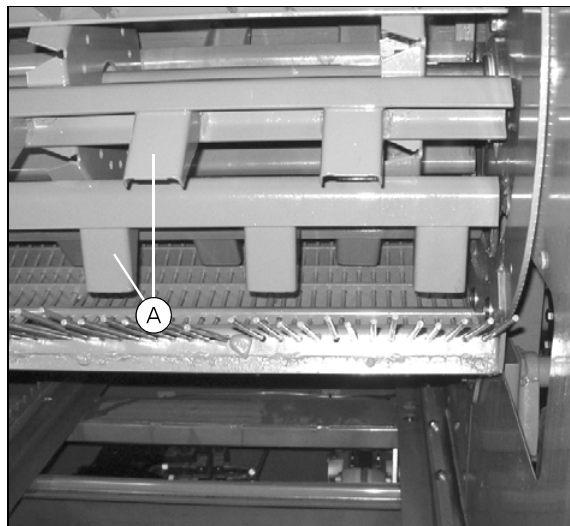

Fig. 67
2. Mount the rasp bars on the cylinder spiders alternately so that the pins are offset to each other (A) (Fig. 67).